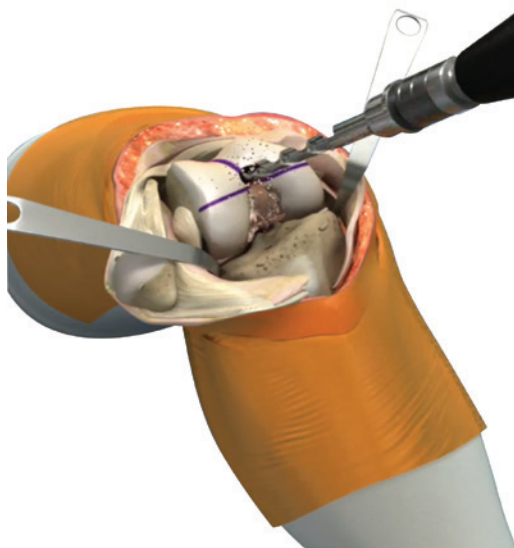

Figure 1
1. Open the femoral canal with the 9.5mm intramedullary drill. The drill has a 12mm step to open the entry point further (Figure 1).